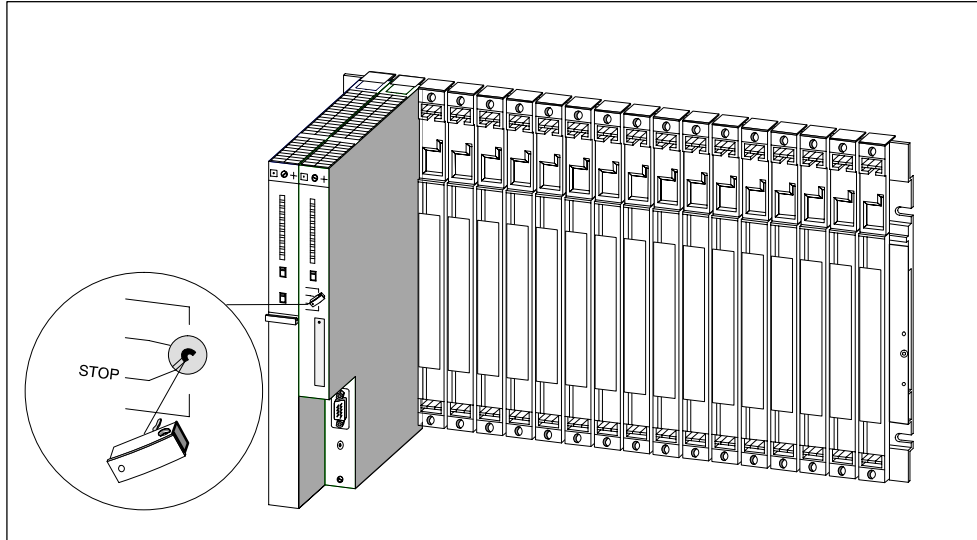

Figure 2-8 Inserting the Key in the CPU
8. Insert the key into the keyswitch in the CPU when you have installed all the modules (see Figure 2-8).